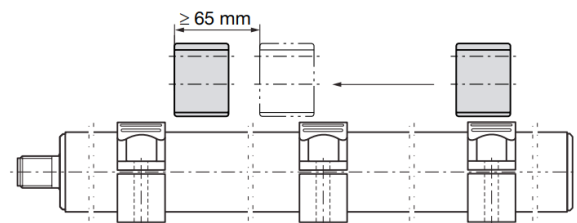

Fig. 5-3: Minimum spacing when using multiple magnets
- When using multiple magnets a minimum separation of 65 mm must be maintained between them (see Fig. 5-3).